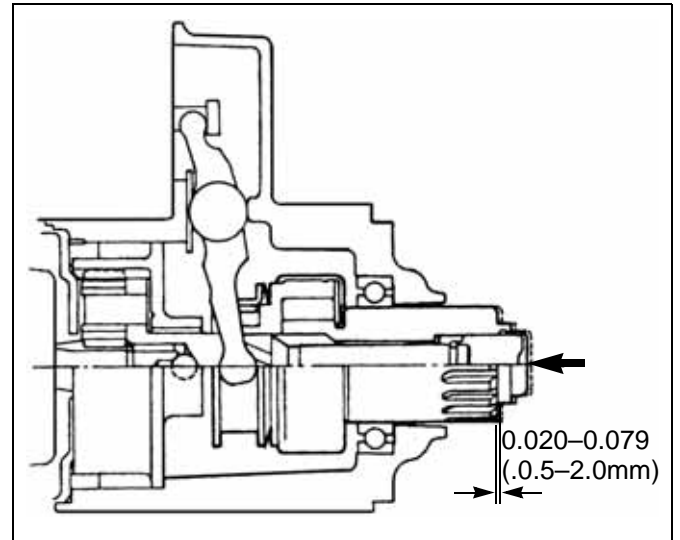

Fig. 5-35
- b. Push pinion back by hand and measure the amount of the pinion movement as shown in page 5-17, Fig. 5-35. If the amount does not fall within limit, adjust it by adding or removing shims which are located between switch and front bracket. Adding shims decreases the amount of the movement.